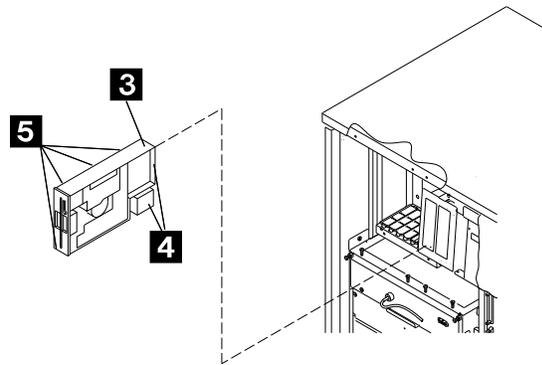

Figure 4-73. FDD Removal
11. Refer to Figure 4-73 .
2. Install the new FDD assembly with the four screws **5**. Refer to Figure 4-73 on page 4-54.
3. Reconnect the two cables at the back of the FDD **4**. Refer to Figure 4-73 on page 4-54.